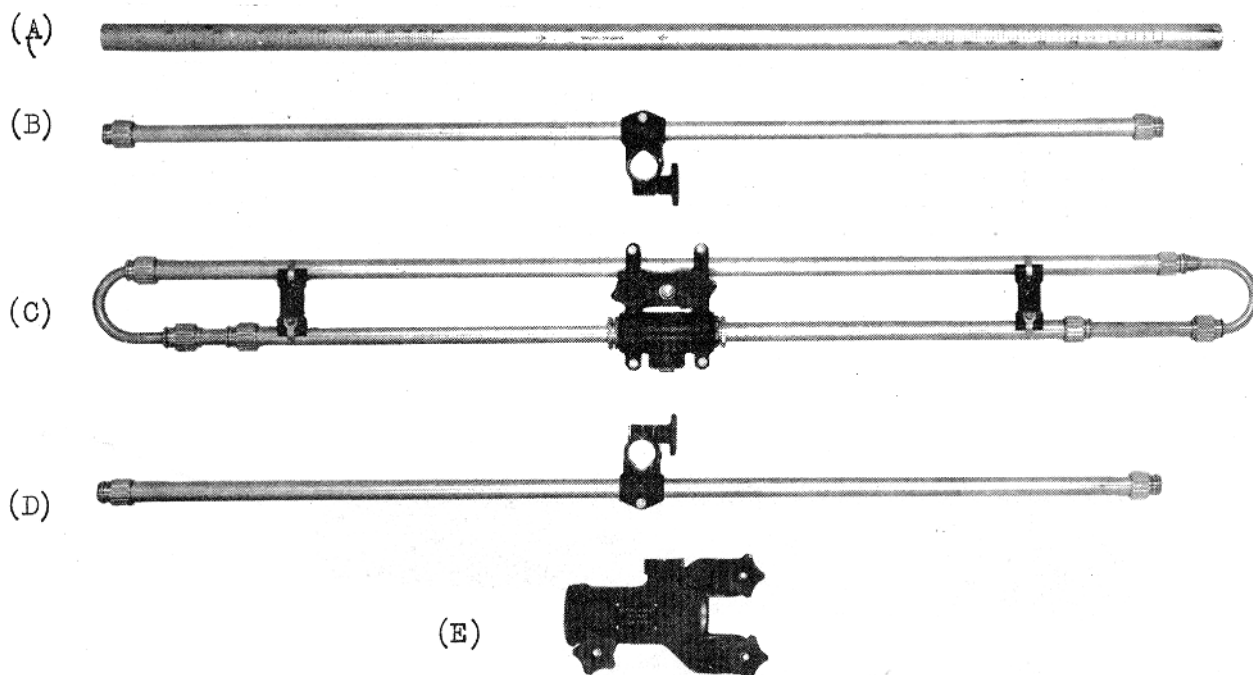

FIG. 3 - AERIAL ARRAY YAGI NO.2 - COMPONENTS
3. Weights and dimensions (Figs. 3 & 4)